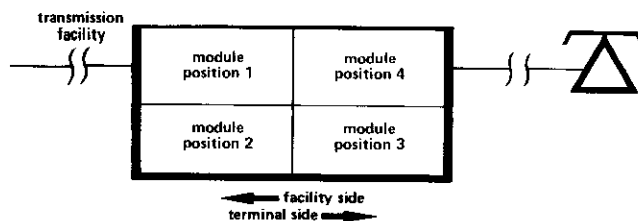

figure 3. "Facility side" and "terminal side" nomenclature
2.01 In this description, the term "facility side" refers to the side of the 260 System (or module within that system) facing the facility over which SF or DX signaling is transmitted to the distant end of a communication channel. Conversely, "terminal side" refers to the side of the 260 System (or module within that system) facing the near-end equipment or station apparatus and toward which loop signaling is extended by the 260 System. See figure 3 for the application of this nomenclature.
2.03 The basic applications delineated in the preceding paragraph, and variations thereof, are implemented by the selective use of Tellabs' Type 10 printed circuit modules in a universally wired equipment enclosure. Please note in figure 3 that the position-1 module interfaces the facility and the position-4 module interfaces the terminal. Between these interfaces, the position-2 module provides signaling for the facility, and the position-3 module converts the facility-side signaling to the mode of signaling required by the terminal. In certain applications, one or more of these four modules may not be required. However, if a particular module position is used, it always serves the same basic purpose (as described above). Module positions 1, 2, 3, and 4 are always defined, respectively; as the upper left, lower left, lower right and upper right positions as you look at the front of the module enclosure. The *general application* subsection of this Practice will discuss 260 System usage in terms of these module positions, their functions, their common applications, and their attendant modules.